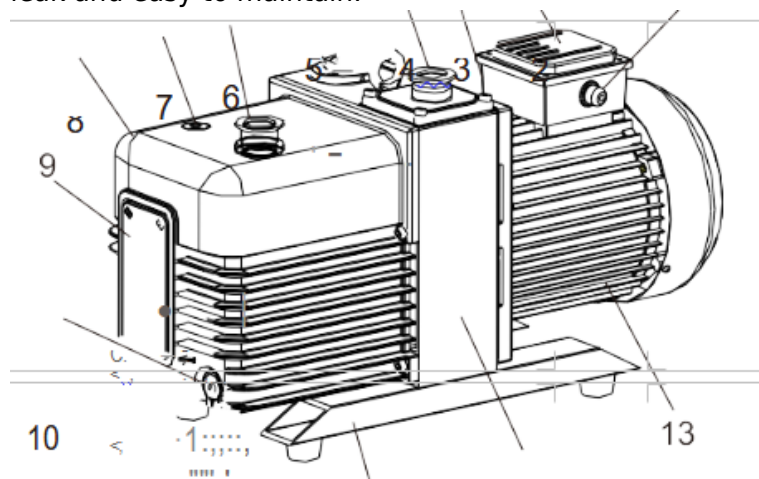
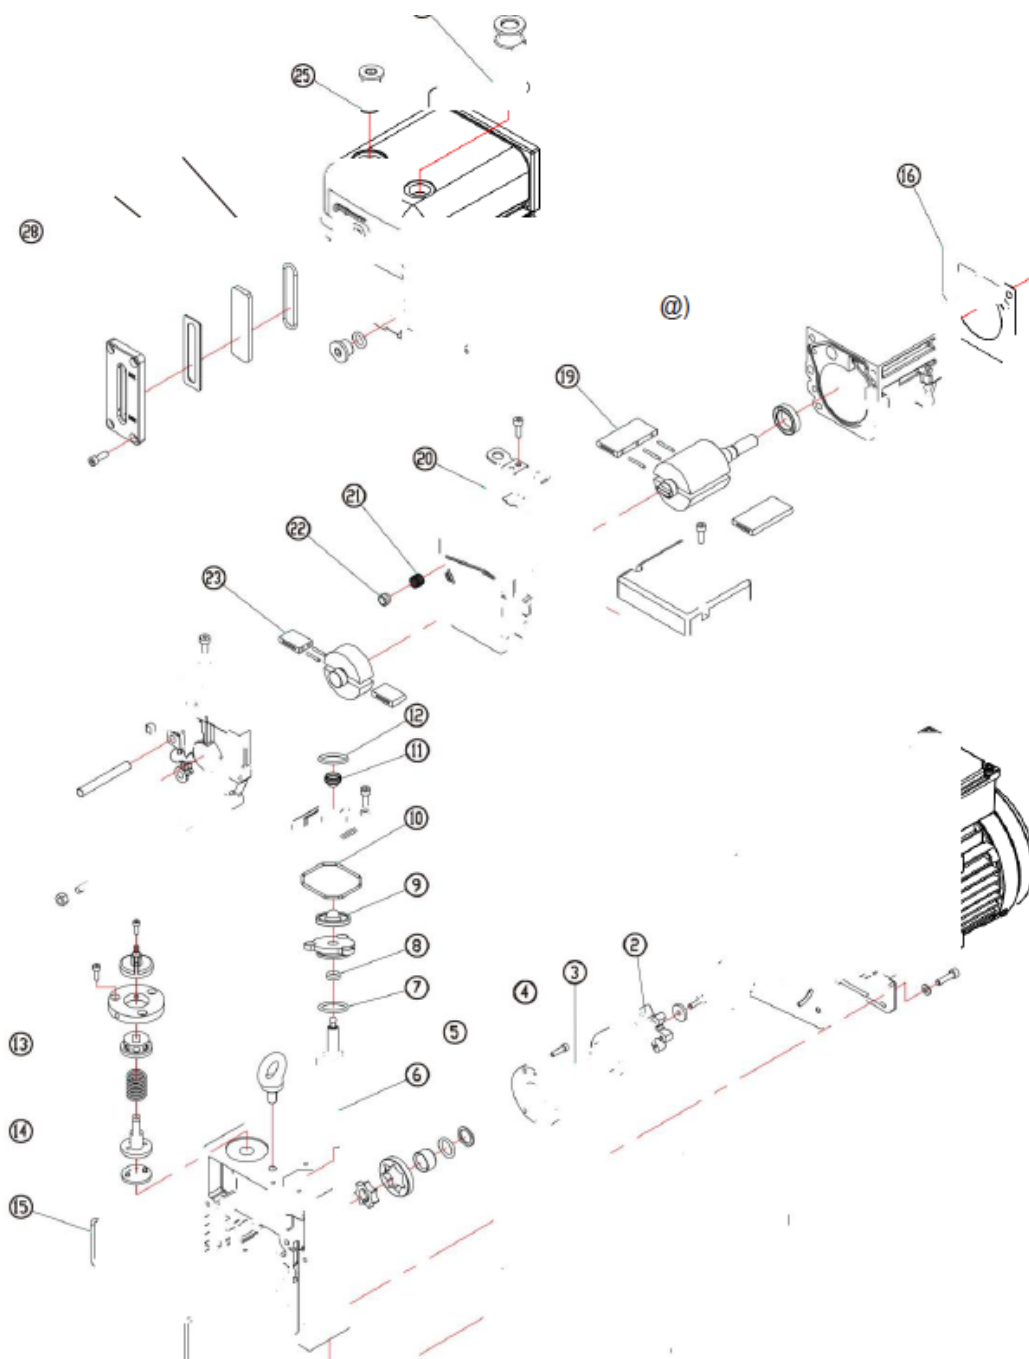

Figure 1
Figure 6
The pump has a reasonable structure design (Refer to Fig. 1) for long failure-free operation. It features high reliability, high flow rate, low ultimate pressure and low noise level. The pump has no oil spray, no leak and easy to maintain.
1) The oil level shall be always kept between position MAX and MIN of oil sight glass during operation (refer to Fig. 6). Add oil when the oil level is lower than position MIN and discharge oil by removing the oil drain plug (refer to Fig. 1) when the oil level is above position MAX.
2) Remove the oil drain plug (Fig. 1) and drain the used oil into a suitable receptacle. When the flow of oil stops, screw on the oil drain plug and start the pump shortly (10 seconds). Switch off the pump, remove the plug again and drain the residual oil. Screw on the oil drain plug {Check O-ring, replace it if necessary}. Remove the oil fill plug (Fig. 1) and fill in fresh pump oil which is specified or provided by the manufacturer.